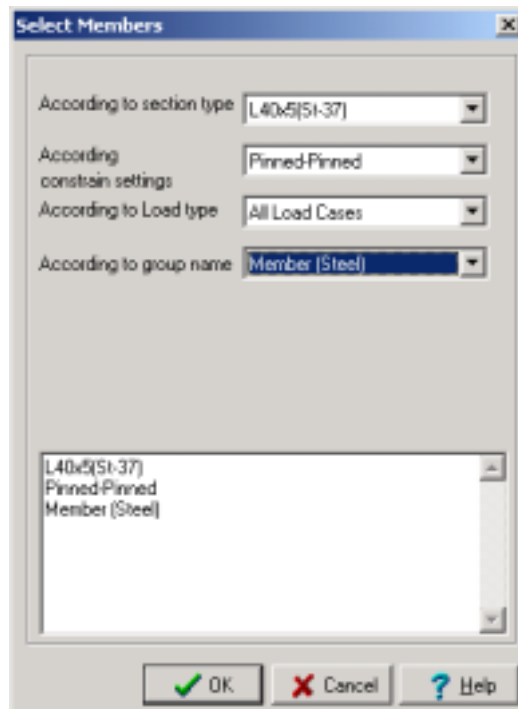

Figure 68 "Select using filters" dialogue box.
1. Choose the command Edit > Select using filters or the appropriate icon . The dialogue box shown in figure 68 will appear.